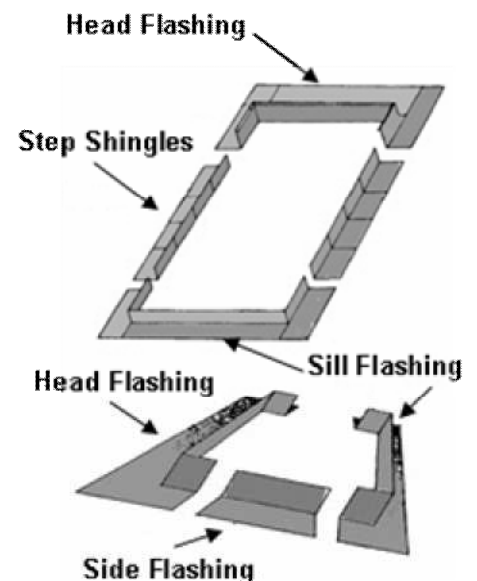

Fig. 3 - Flashing the Curb Box
**Step 9 - Flashing the Curb Box:** Flash the curb box using the most appropriate flashing material for your specific roof type (see Fig. 3 for common curb flashing materials). Replace tiles or metal roofing, leaving enough working space between the edge of the tiles and the curb box so that the flashing can be slipped into place.